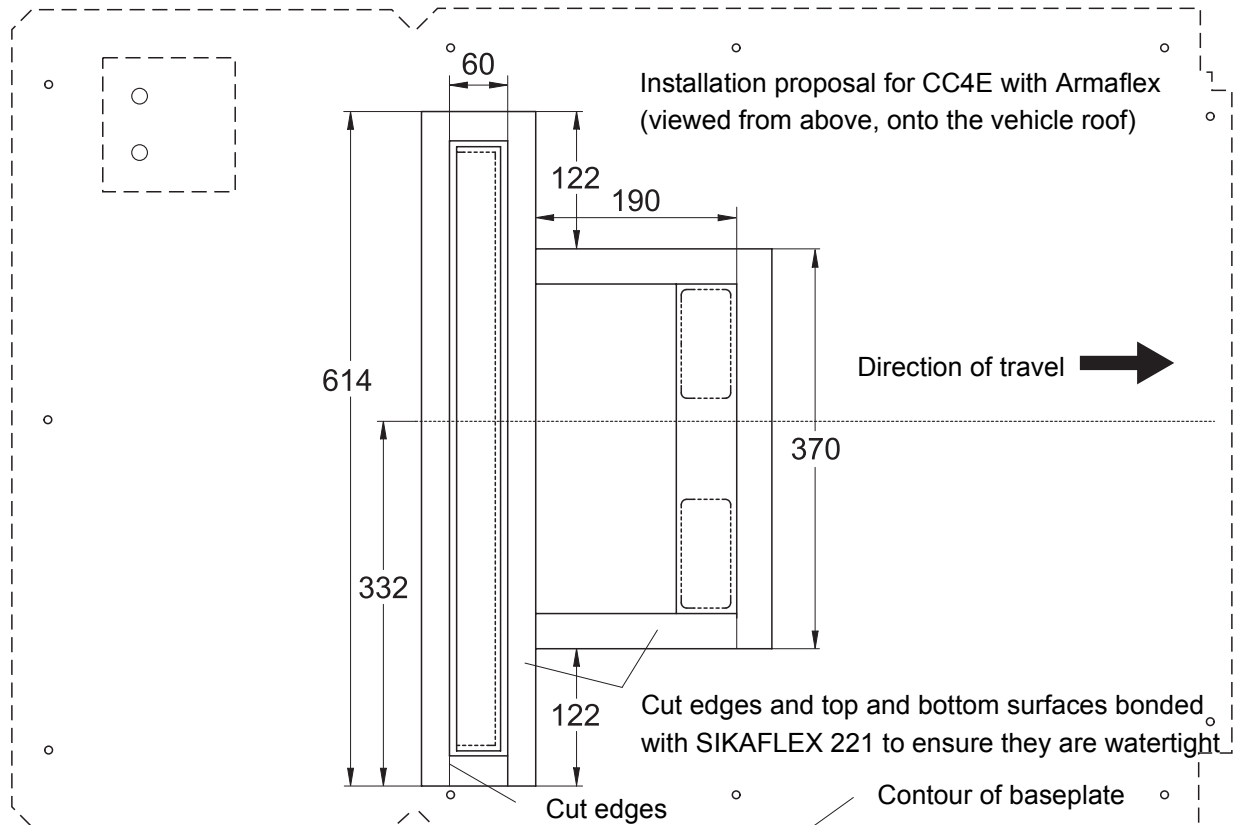

Fig. 4.2
- c) The height of the sealing frame must be cut / adapted to the roof contour (beads/gutters/camber) in such a way as to seal the contours as shown in Fig. 4.2.